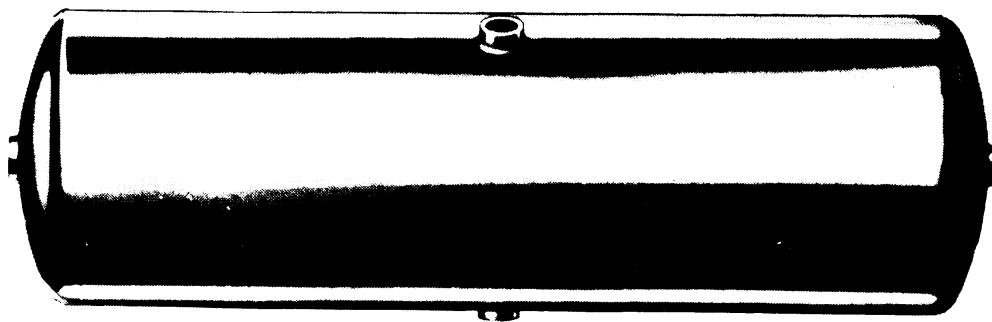

Figure 34—Air Brake System Reservoir.
(1) With the air brake system fully charged, test for leakage past the key, using soap suds. Also check for leakage through the body by coating the outside of the drain cock with soap suds.
(2) Leakage in excess of a three-inch soap bubble in three seconds is not permissible.
(3) Leakage will be caused by a dirty or damaged key or body. Leakage due to dirt can be corrected by cleaning and applying a thin coating of cup grease to the key before assembling. Leakage due to a damaged key or body cannot be repaired, and the drain cock must be replaced.
8. Reservoir. (See figure 34.)